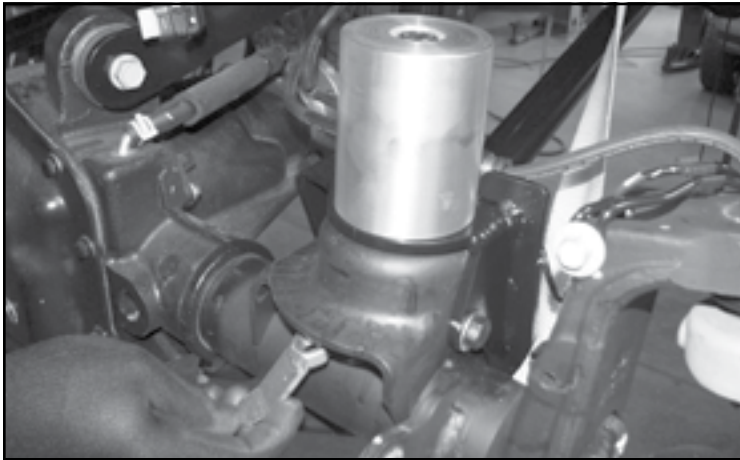

FIGURE 37 - STEP 23
23. Install FT50644 (Bump stop spacer) using the supplied FT50060 (Nut tab) and 1/2" bolt, all from FTS24251 or FTS24259 component box kit. **SEE FIGURE 37**